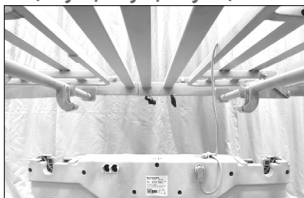

Fig.8
1. Place the actuator below the grid, ensuring that each motor moves the correct section (Fig.8, Fig.9, Fig.10)